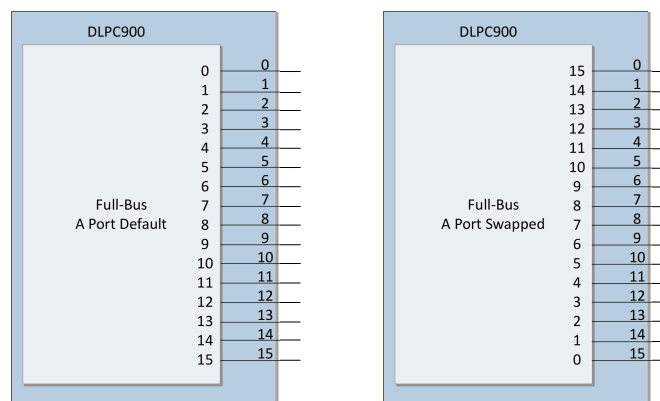

图 6-4. Controller to DMD Full-Bus Connections
- (4) The DLPC900 is a full-bus DMD signaling interface. 图 6-4 shows the controller connections for this configuration.
- (5) The pulse duration minimum for any clock rate can be calculated using the following formulas.
图 6-4 shows the controller connections for full-bus default or swapped. Refer to the Firmware section of the *DLP® LightCrafter™ Single DLPC900 Evaluation Module (EVM) User's Guide (DLPU101)* or *DLP® LightCrafter™ Dual DLPC900 Evaluation Module (EVM) User's Guide (DLPU102)* for details on how to select the bus swap settings to match the board layout connections.